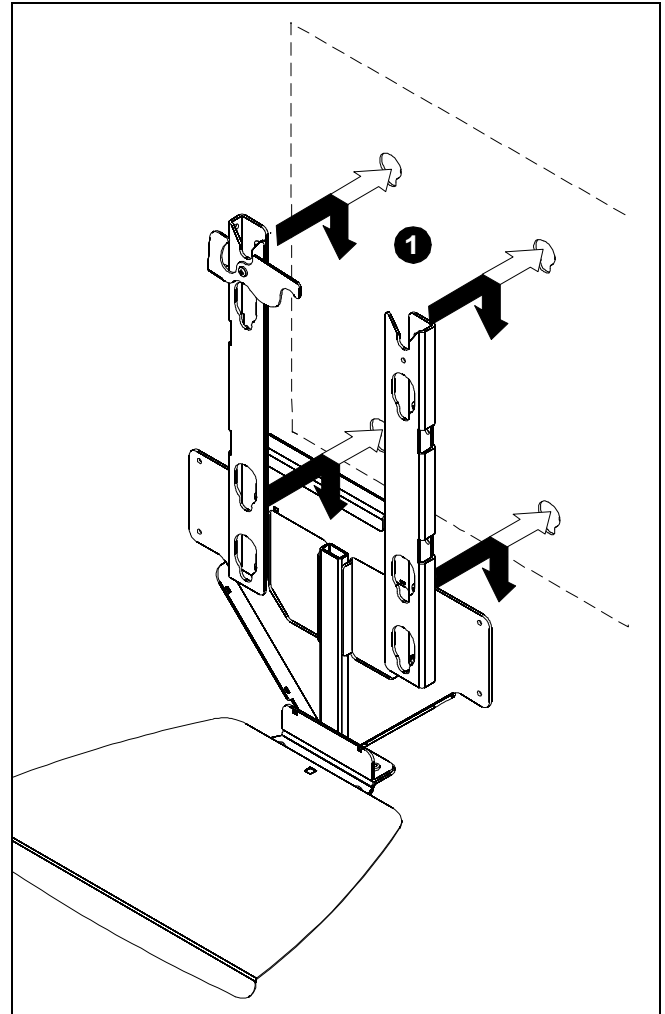

Figure 2
1. Install MSP-WES1 to mount following the installation instructions provided with the mount. (See Figure 2)